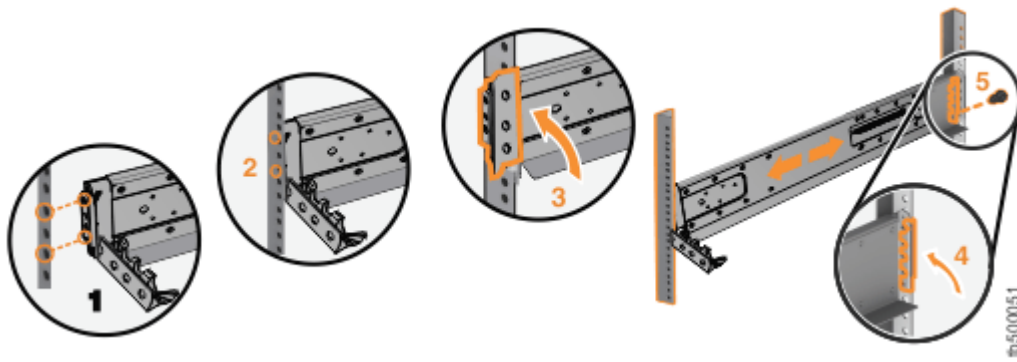

Figure 15. Closing the hinge brackets
- Align the holes in the rail bracket with the holes on the front and rear rack cabinet flanges. Ensure that the rails are aligned on the inside of the rack cabinet. See steps 1 through 3 in Figure 15 on page 19.
- Close the rear hinge bracket to secure the rail to the rack cabinet flange (step 4 in Figure 15 on page 19).
9. Secure the rear bracket to the rail with a black M5 screw (step 5 in Figure 15 on page 19).
Figure 15 on page 19 shows an example.